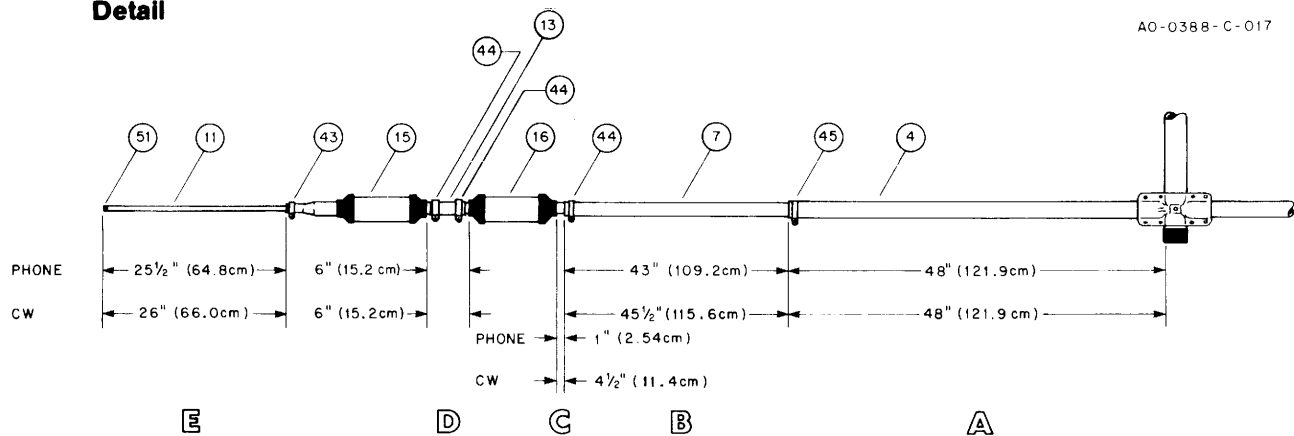

Figure 10
Select the R1 section of tubing ($1\frac{1}{4}$ " x 48", 121.9 cm long, item 4). Slip a $\frac{1}{4}$ " compression clamp onto the R1 section. Refer to Figure 8. Select the R2 section ($1\frac{1}{8}$ " x 48", 121.7 cm long, item 7). Slip the unswaged (untapered) end of the R2 section into the R1 section and measure dimensions B for your mode of transmission (phone or CW) as shown in Figure 10 then tighten the compression clamp slightly.
Slip a 1" compression clamp onto the swaged end of the R2 section. Select the 10-meter trap (item 16), and slip the shorted end into the R2 section. The shorted end can be identified by the part number marking near the plastic insulator. Measure dimension C for your mode of transmission as shown in Figure 10. Make certain the drain holes in the traps are facing downward.
Slip two 1" compression clamps onto the R3 section (1" x 5", 12.7 cm long, item 13). Now slip the R3 section over the 10-meter trap and slip the shorted end of the 15-meter parasitic trap (item 15), into the R3 section. Make certain the shorted end of the trap (identified by the part number) is inserted into the R3 section. Measure dimension D for your mode of transmission as shown in Figure 10, keeping R3 section approximately equidistant from the two traps. Make certain the drain holes in the trap are facing downward. Now tighten all compression clamps slightly.
Slip a 1/2" compression clamp over the swaged end of the 15-meter trap. Select the R4 section (7/16" x 28", item 11) and slip it into the 15-meter trap. Measure dimension E for your mode of transmission as shown in Figure 10, then tighten compression clamp slightly.